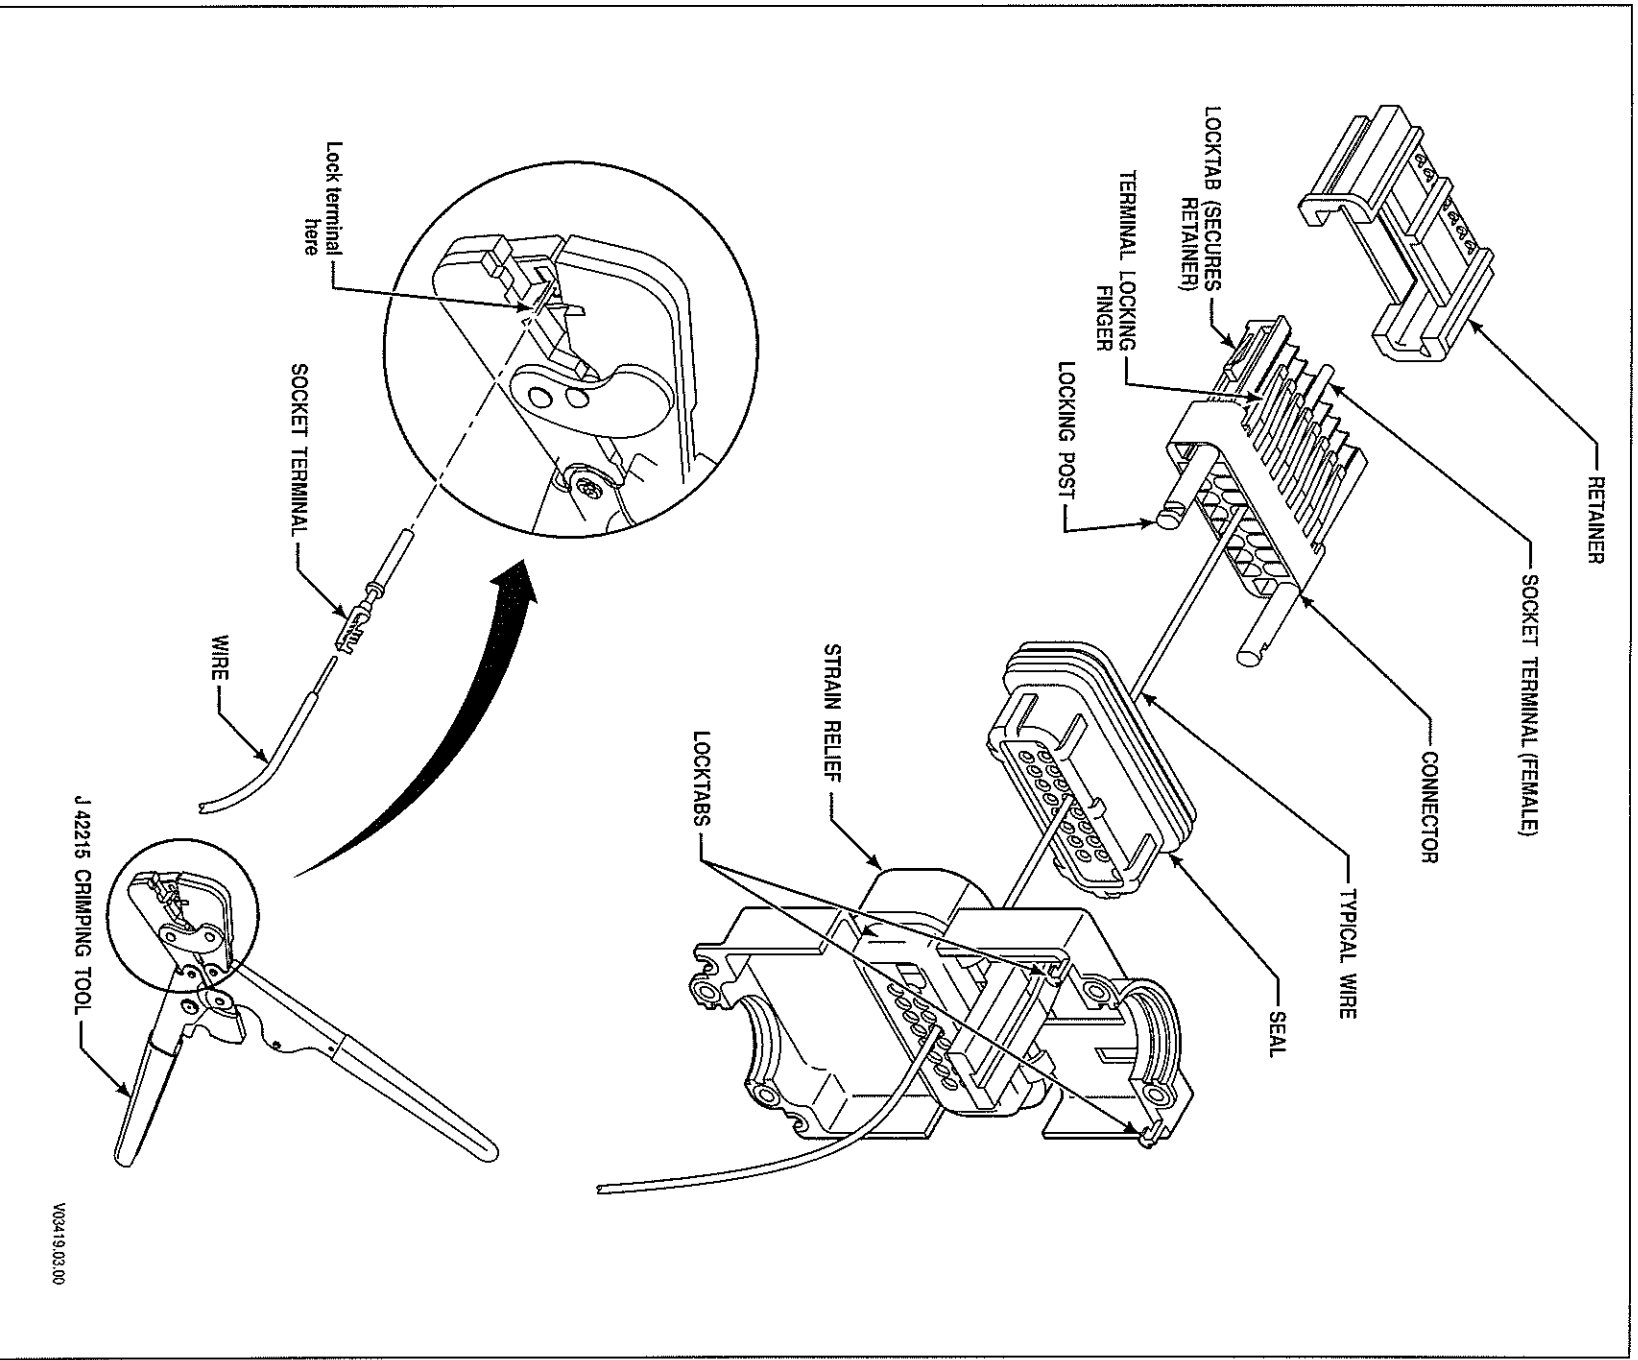

Figure E-4A. Delphi-Packard Micro Pack 16-Way 180 Degree Connector
1. CAN Shift Selector Harness Connectors (Figure E-4A, 4B, and 4C)
5. Complete terminal installation of the CAN Shift Selector Connectors as follows: (Figure E-4A and E-4B)